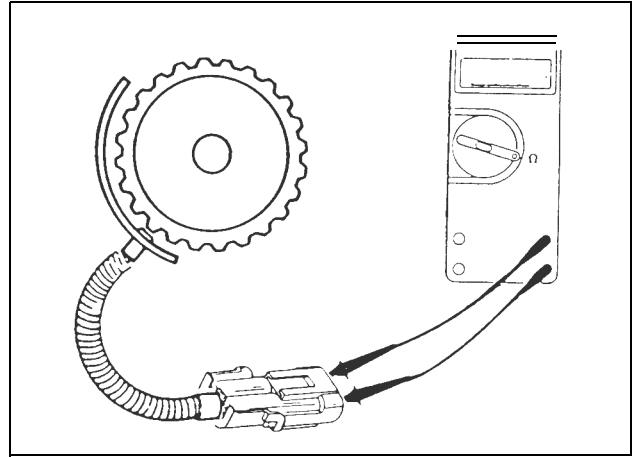

FIG. 1.1.36
**Correction:** Check that connections are tight with no evidence of corrosion. Disconnect harness at the control module. Measure resistance between tach sender wires; 50-300 ohms is a good reading (Fig. 1.1.36). The Motorola 7EP2033 or Volvo/white 13603-0013 will read 245-255 ohms.